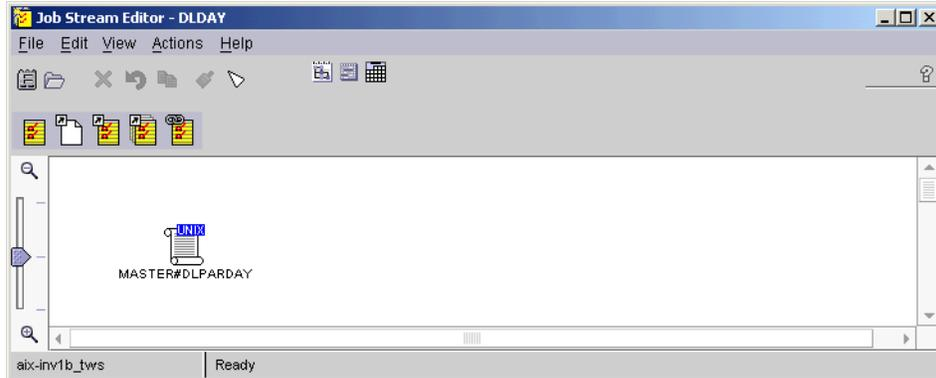

Figure D-11 Job Stream Editor with a job
11. Click **OK** to add the job to the job stream editor window, as shown in Figure D-11.